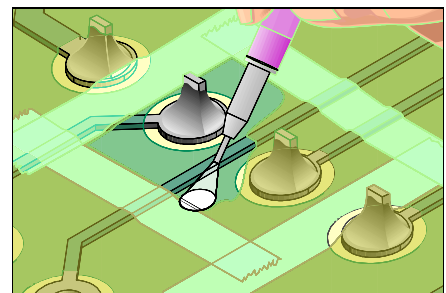

Figure 2: Remove coating using micro blasting system.
5. Insert the PC board into the blasting chamber and blast away the damaged or unwanted coating\solder mask. Slowly move the nozzle along the area where the coating is to be removed. (See Figure 2).